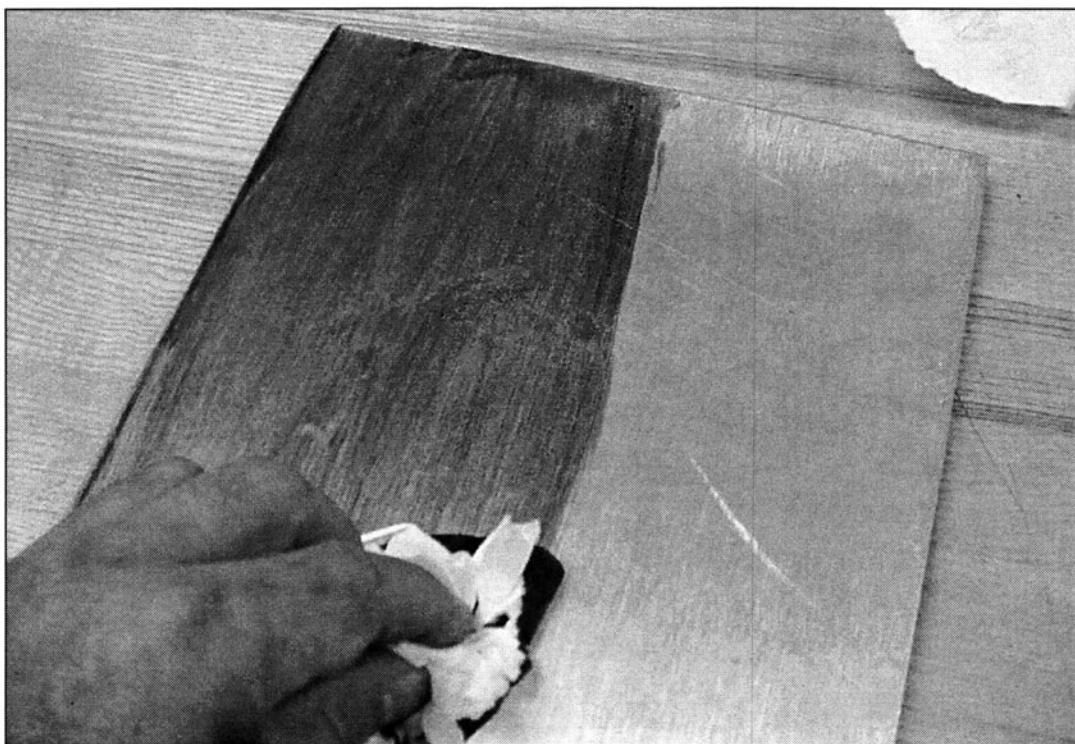

FIGURE 5-6 A paper towel is used to spread Dykem®.
17. *Use toilet paper to spread Dykem. (See Fig. 5-6)*